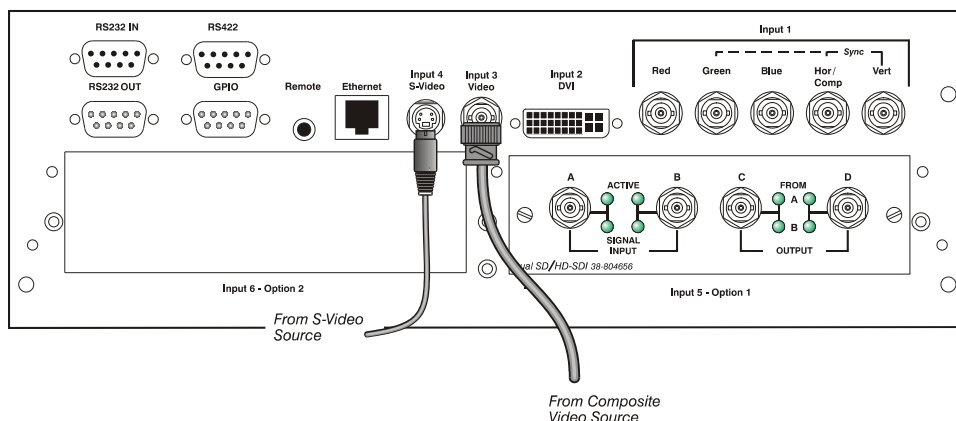

Figure 2.27. Connecting Composite Video
- Composite Video** ► **INPUT 3** and **INPUT 4** provide simultaneous connection of both a composite video source (**INPUT 3**) and an S-Video source (**INPUT 4**). See Figure 2.27 below.